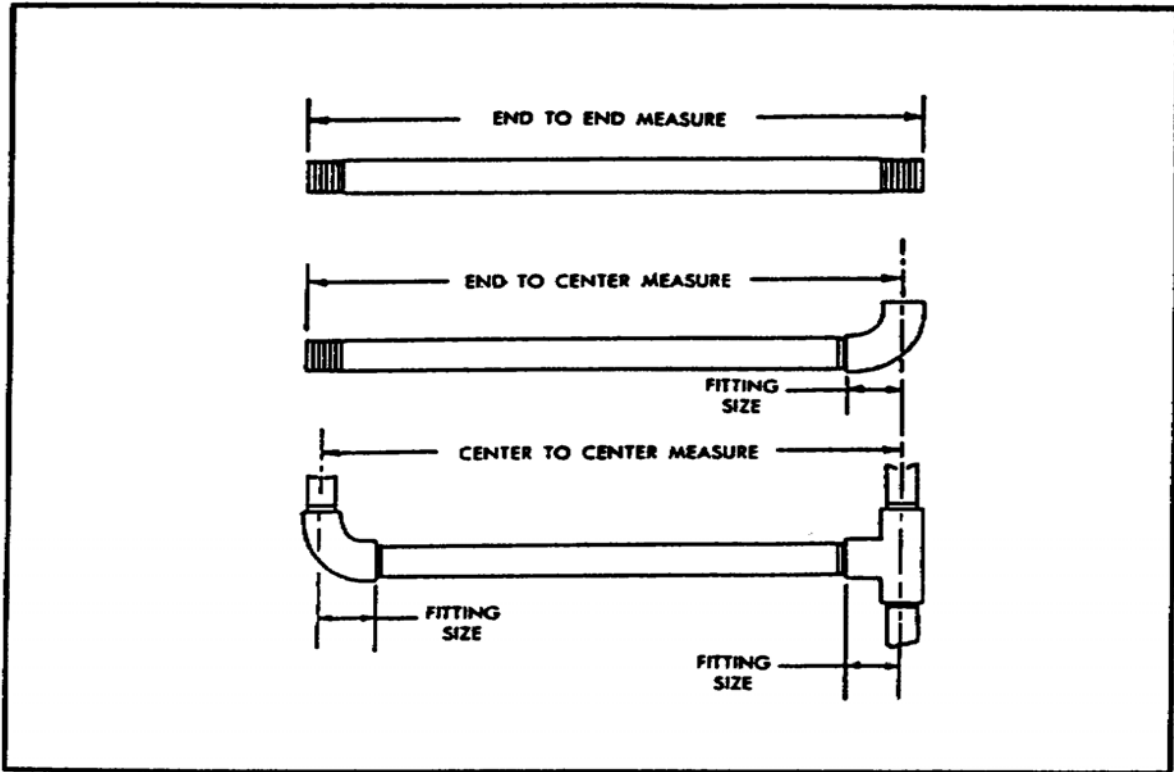

FIGURE 123. MEASURING THREADED PIPE.
(1) *Measuring Threaded Pipe.* Before you cut pipe, make certain the correct required length is determined. There are three methods of measuring threaded pipe, and you must understand these methods if the pipe is to be cut to the correct lengths (figure 123).
2 Measure size of fitting or fittings as shown in figure 123.